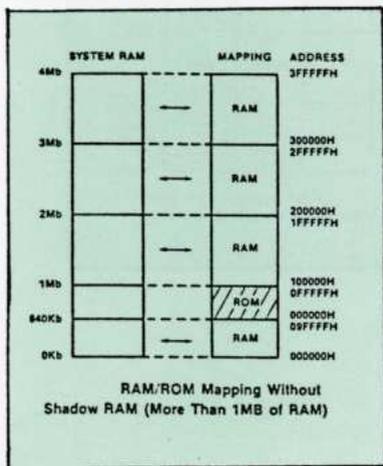
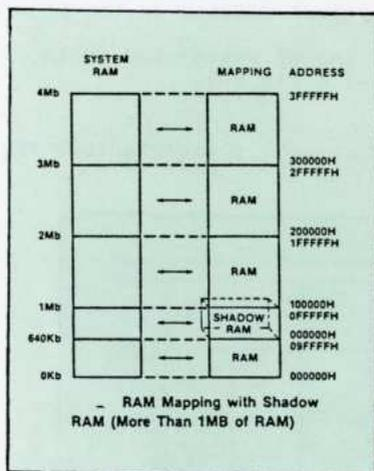

Fig 6-1
Fig 6-2
When more than 1MB of system RAM exists, it is mapped as shown in fig.6-1 & fig.6-2.
(1) Shadow RAM.....Disable (see Fig 6-1)
(2) Shadow RAM.....Enable (see Fig.6-2)